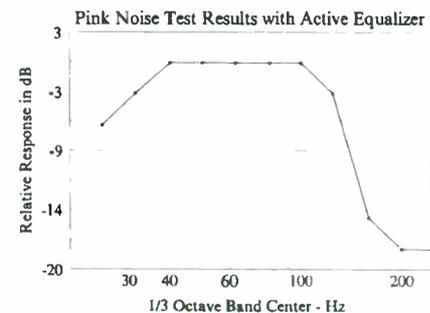

FIGURE 41: Pink-noise test results for waveguide with active equalizer and active crossover.
I measured, via pink noise and the 1/3 octave RTA, the performance of the waveguide (Fig. 41) with dual drivers X, rubber throat, and full 3/4L pipe extension driven through the active equalizer and active LP crossover (CO). The mike was back 2' from each port, while the waveguide was driven at 2W, measured after the 110Hz second-order LP crossover and the equalizer.